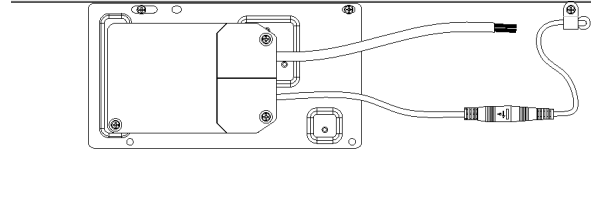
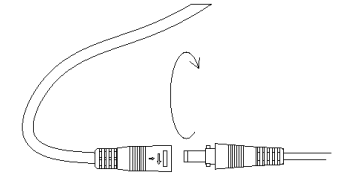

Fig.4a
Fig.4b
Step 2: Using the mounting bracket available on the back of the LED Panel, securely mount the LED Driver, Fig.4a. Connect the LED Driver using interlocking power connectors, Fig.4b.